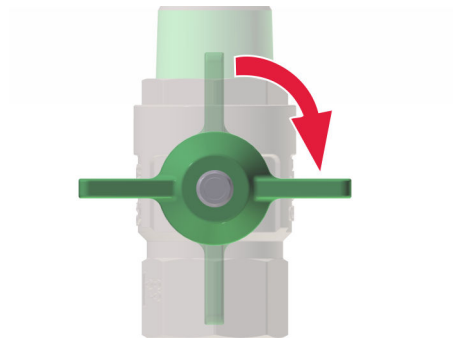

Fig. 34: Closing the main shut off valves
1. ➔ Close all main shut off valves (Fig. 34) on the fresh water station.